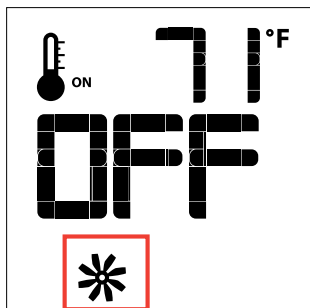
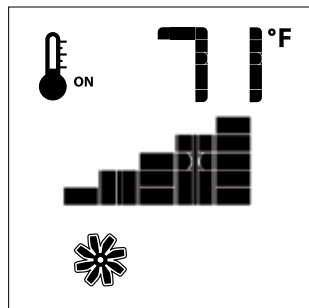

Figure 13
Figure 14
If the appliance is equipped with a hot air circulating fan, the speed of the fan can be controlled by the Proflame system. The fan speed can be adjusted through six (6) speeds. To activate this function use the Mode Key (Fig.1) to index to the fan control icon (Fig. 13). Use the Up/Down Arrow Keys (Fig.1) to turn on, off or adjust the fan speed (Fig. 14). A single "beep" will confirm reception of the command.